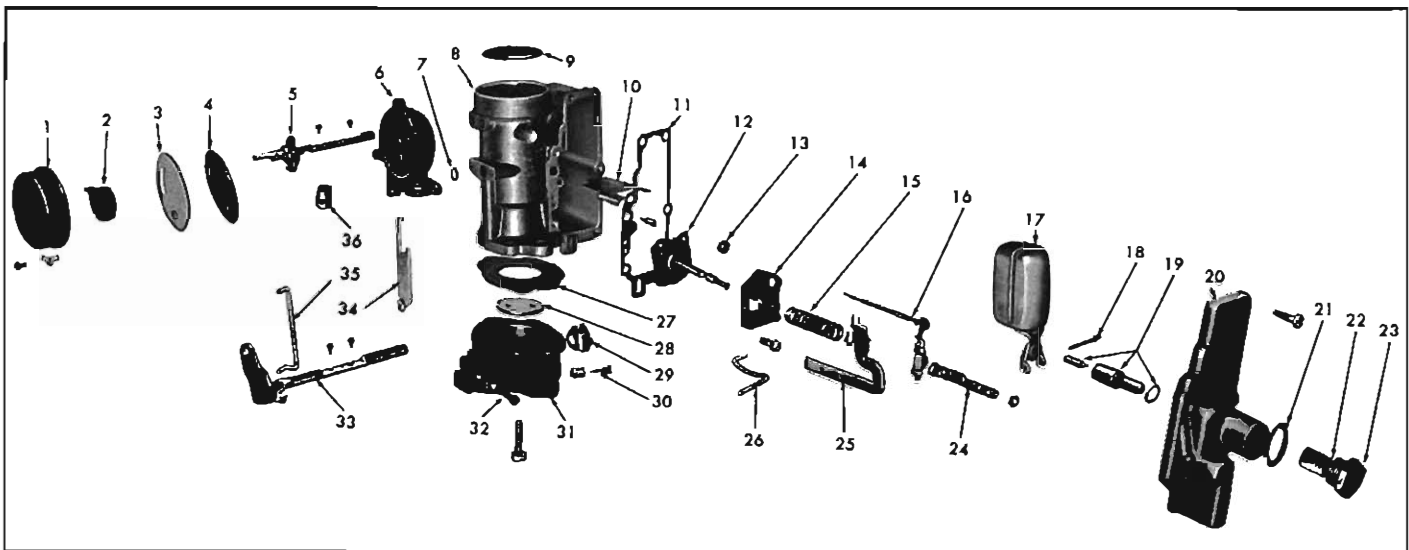

Fig. 34—Carburetor (Exploded View)
Disassembly (Fig. 34)
8. Install metering rod onto the metering rod arm, hook the spring and install retainer clip (fig. 34).